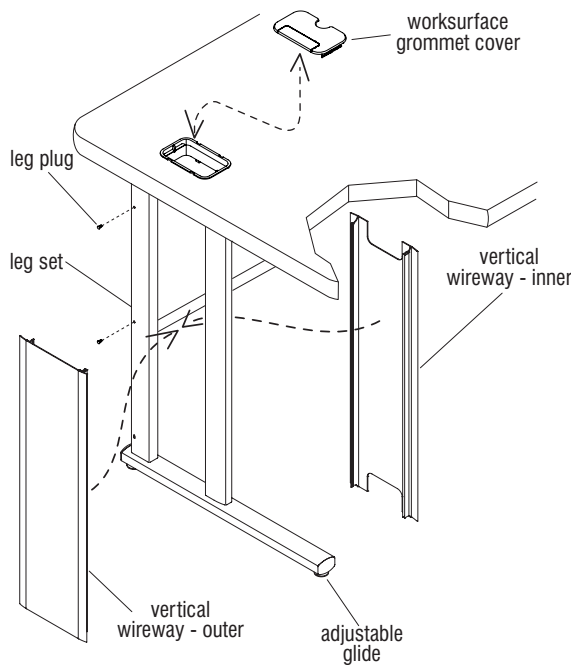

Figure 2
4. Carefully stand the worksurface right side up and install two leg plugs into the two exposed holes at the outside of each leg set as illustrated (Figure 2).
Note: Two different vertical wireway halves are supplied with non-powered tables: The "vertical wireway - inner" (with two cut-outs) is to be installed facing the inside of the table. The "vertical wireway - outer" (no cut-out) is to be installed on the outside of a leg (Figure 2).
5. Vertical wireways fasten to each other from each side of the leg set opening and must be oriented to press together. Begin by positioning an outer vertical wireway (no-cut-out), to the outside of the leg set as illustrated. Next position the inner vertical wireway cover (two cut-outs) in the correct orientation at the inside of the leg set and press it into the outer wireway (Figure 2).
6. Level the worksurface by turning the four adjustable glides either in or out. The jambnuts between the glides and the bottom of the leg sets must be tightened up against the bottom of the leg to secure the glide (Figure 2).
7. Press worksurface grommets into wireway holes in worksurface top (Figure 2).